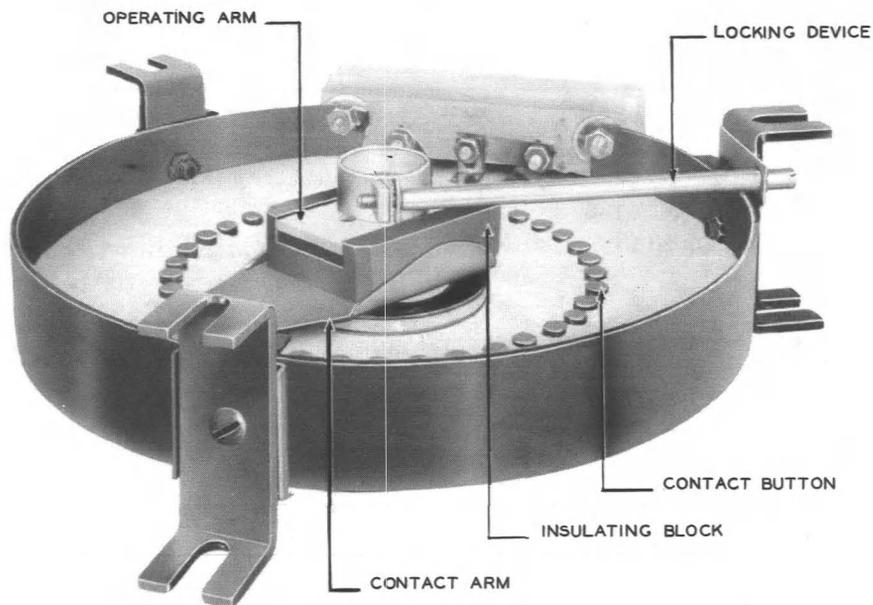
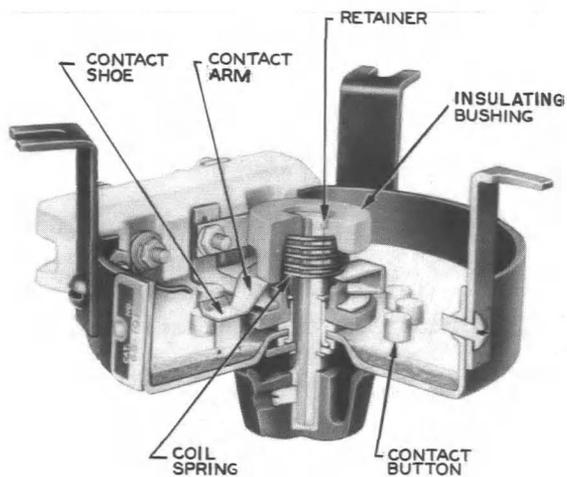

Fig. 1 — 6-, 8-, and 13-inch Rheostat — Balanced Contact Arm Construction
Fig. 2 — 4-inch Rheostat — Balanced Contact Arm Construction — Older Type — Cutaway Section
1.08 Balanced Contact Arm Construction: Rheostats having this type of contact arm are shown in Fig. 1, 2, and 3. In these rheostats the contact arm is held against the contacts by a coil spring acting between the contact arm and operating arm. The operating arm is insulated from the contact arm by an insulating block or, in the rheostat shown in Fig. 2, by the use of an insulating bushing for the operating arm. Most KS-5031, KS-5125-01, KS-5244, KS-5661, KS-5711, and KS-5712 rheostats are of balanced contact arm construction.
(1) If the requirement is not met, proceed as follows depending on the type of construction.
(2) **Balanced Contact Arm Construction (See 1.08):** Adjust the coil spring acting between the contact and operating arms as follows. Remove the spring retaining nut, washer, and operating arm, using the adjustable wrench. Remove the spring. On rheostats of the type shown in Fig. 2, press down on the insulating bushing and remove the retainer from its slot near the end of the shaft to gain access to the coil spring. Extend or compress the spring to adjust its tension as required. If the spring cannot be adjusted to meet the requirement, replace it. Remount the parts in the reverse order of removal.